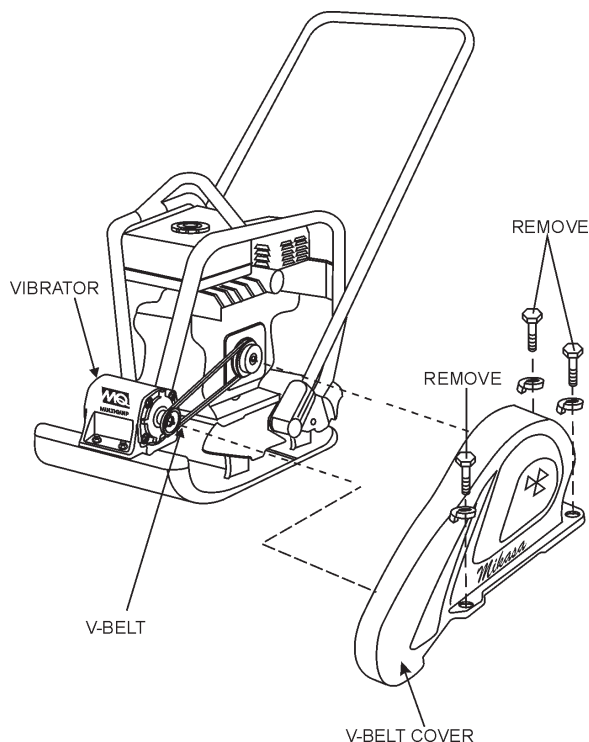

Figure 6. V-Belt Cover Removal
1. To check the V-belt tension, remove the three bolts that secure the belt cover to the frame as shown in Figure 6.